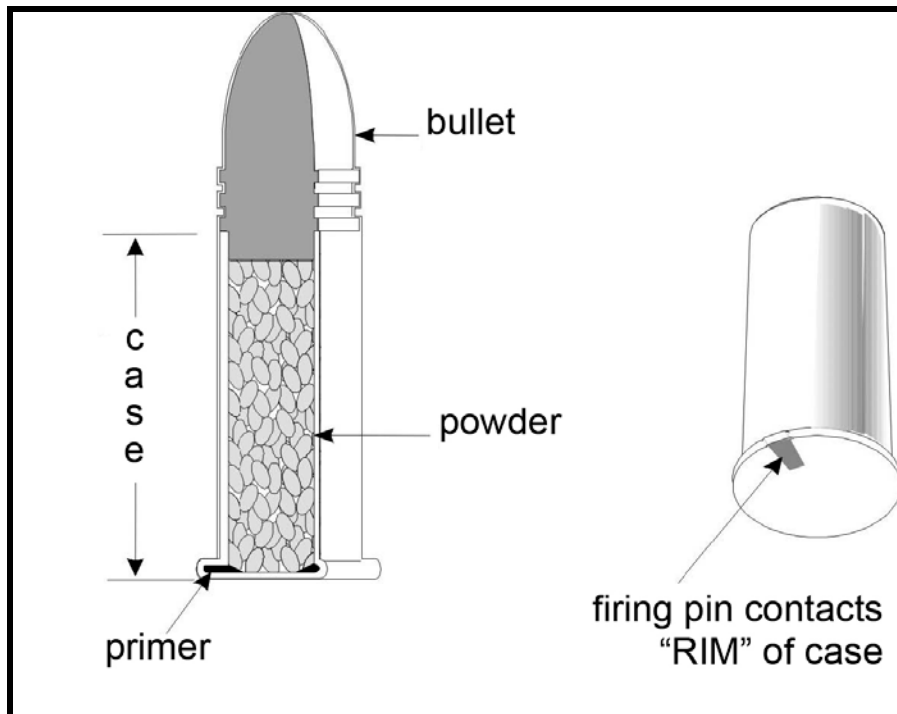

Figure 94. Rim-fire cartridge
- a. **Rim-fire** ammunition's priming chemical fills the space inside the bottom rim of a thin brass or copper cartridge casing. The soft rim dents when struck by the firing pin. This crushes the priming compound. It explodes, and ignites the powder (Figure 94).